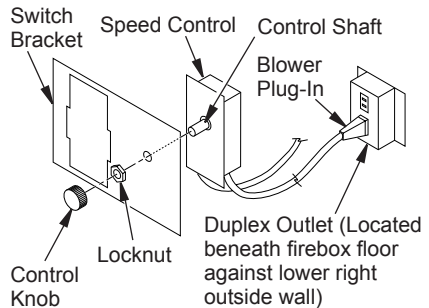

Figure 27 - Attaching Speed Control to Firebox
5. Mount speed control box to switch bracket by placing plastic control shaft forward through round opening in switch bracket (see Figure 27).
5. Mount speed control box against mounting plate provided in lower fireplace cavity by placing plastic control shaft forward through round hole (see Figure 27, page 20).
6. While supporting speed control, secure control shaft with lock nut by pushing and turning lock nut with pliers clockwise until it is tight against mounting plate. Place provided control knob on shaft (see Figure 27, page 20).